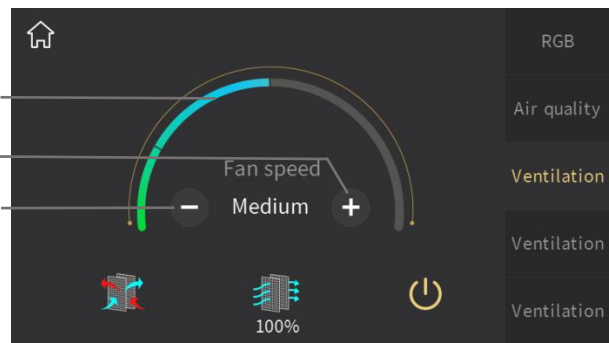

Fig.2.6.4
- ⑨ **This ring bar displays specific fan speed level;**
- ⑩ **To increase fan speed level by touching this icon ;**
- ⑪ **To decrease fan speed level by touching this icon.**
When fan speed is not configured as auto, as shown in Fig.2.6.4, by touching icon⑩ and icon⑪ to adjust fan speed; for each touch of icon⑩ and icon⑪ to adjust one level, there are 3 modes of fan speed: Low, Medium and High. At this time, the adjustment is manually, not automatically according to the concentration of CO₂ or PM2.5.